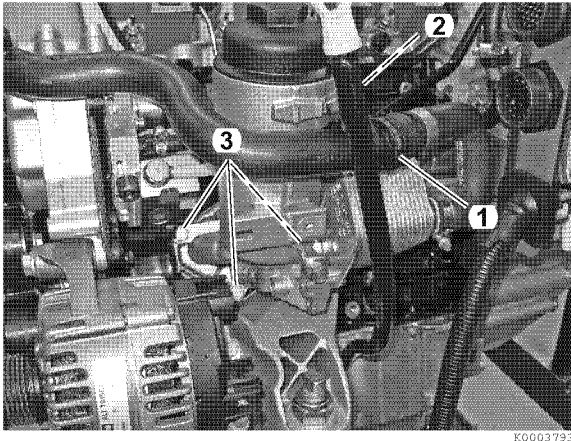

Figure 8-14
7. Remove coolant pipe (1, **Figure 8-14**) from engine.
8. Remove bolt (2, **Figure 8-14**) securing dipstick tube to oil filter housing.
9. Remove three bolts (3, **Figure 8-14**) and remove oil filter housing from engine.